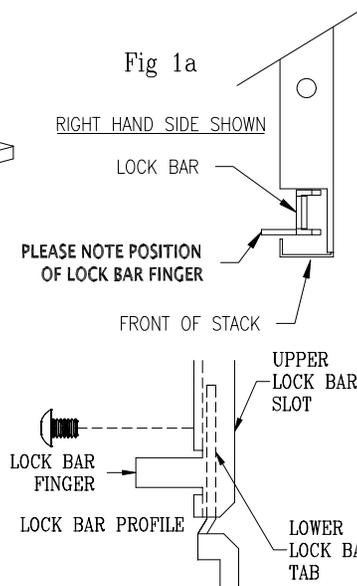

Fig. 1a
- 2 Insert the two (2) lock bars (see Fig. 1a) into the lock bar channels going from the underside of the tier up. Make sure lock bar finger faces toward front of tier (Fig. 1).